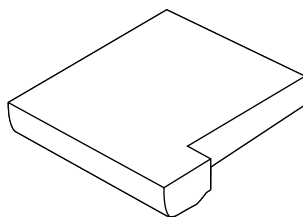

Figure 1-5 Weight Saver (for Multi-function Bay 2 only)
- Weight Saver for Multi-function Bay 2 (located in the accessories box.) (Figure 1-5.)